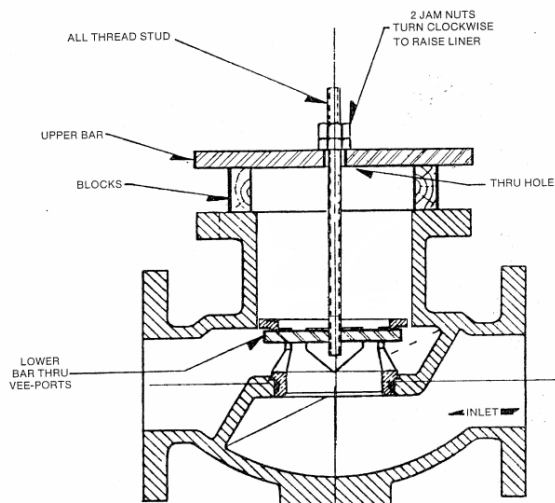

Figure 5
1. After the piston and liner have been removed, reach inside the seat crown (21) through the V-ports and pull up while slightly rotating. In the unlikely event the liner cannot be extracted from the valve body in this manner, refer to Figure 5 and follow these steps.